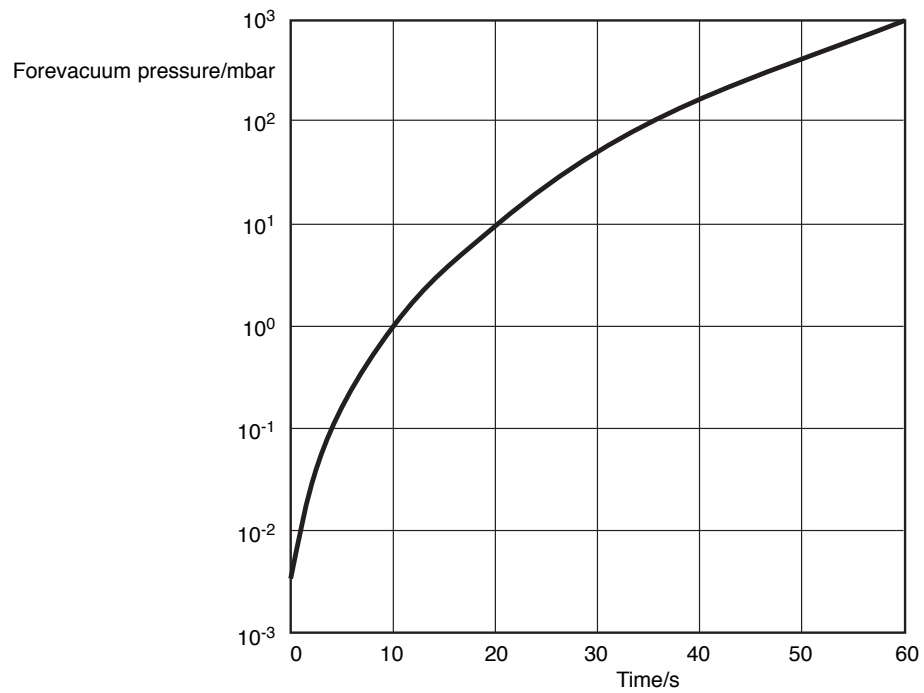

Fig. 30 Curve for safe venting of the MAG;
- When venting the MAG the values shown in the pressure rise curve must be maintained; see Fig. 30.